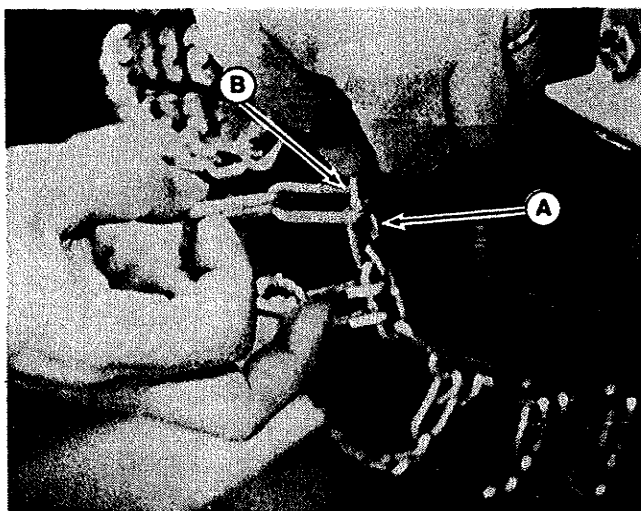

Figure 30
6. Insert the quick hook (A, figure 30) into one of the end links (B). The correct end link to use depends on the tire size. Select the appropriate link to achieve a snug chain fit.